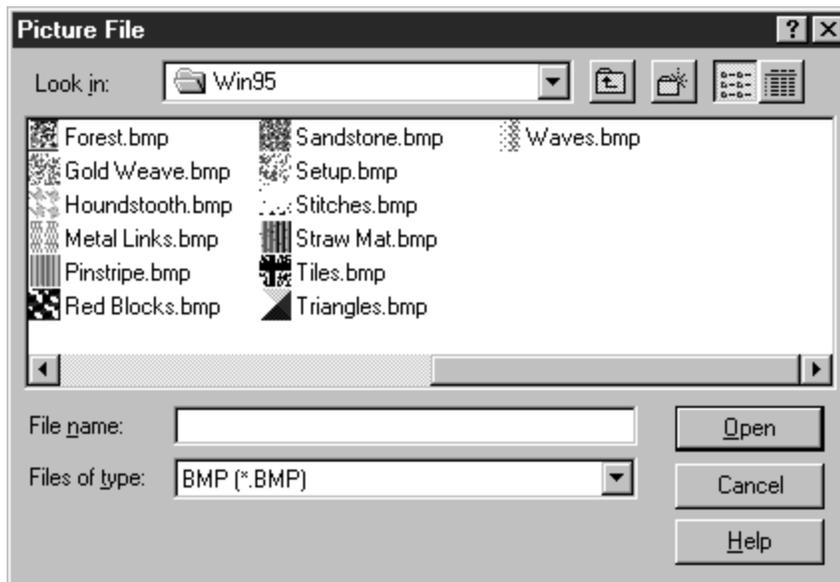

Figure 15.2 Picture File Selection Dialog
3. When the outline is the desired size, release the mouse. The Picture File selection dialog displays (see Figure 15.2). The File Name box lists files in the default picture directory that have the default picture file extension (if no picture directory or file extension defaults have been specified, Windows BMP files in the current directory are listed). Select a file from those listed.
To select a different image to replace the current one, select the browse button to the right of the File edit box on the Picture Properties dialog. The Picture File selection dialog displays (see Figure 15.2). The File Name box lists files in the default image directory that have the default image file extension (if no image directory or file extension defaults have been specified, Windows BMP files in the current directory are listed). To display image files of a different format, open the “List Files of Type” box and select a format. Then select a file from those listed.